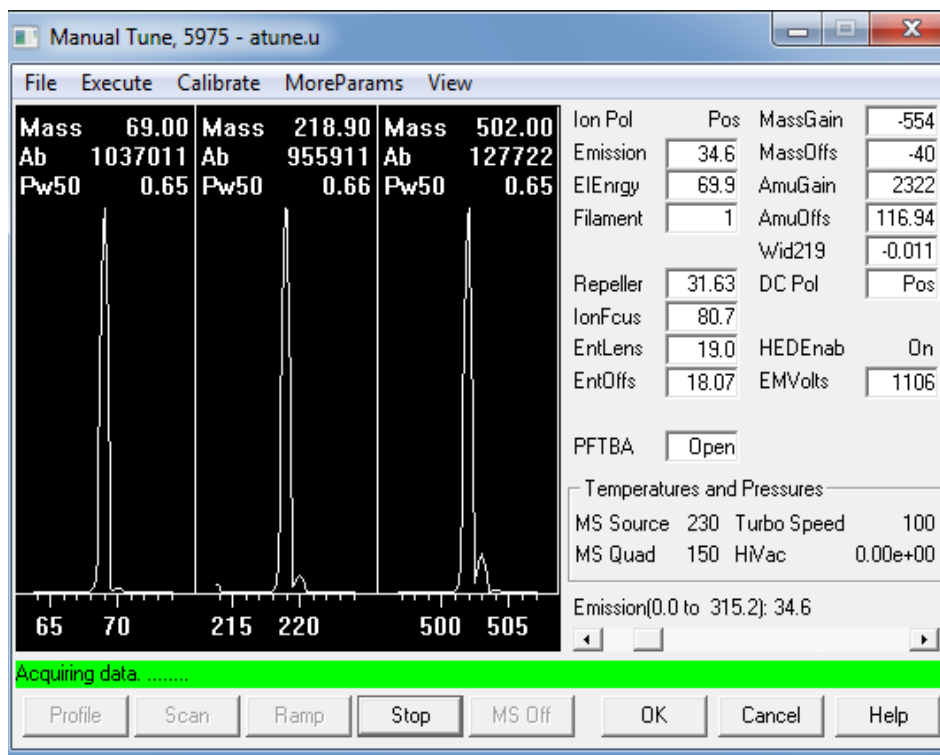

Figure 17 Tune parameters
- 1 In Instrument Control view, select **Edit Tune Parameters** from the Instrument menu (Figure 17).